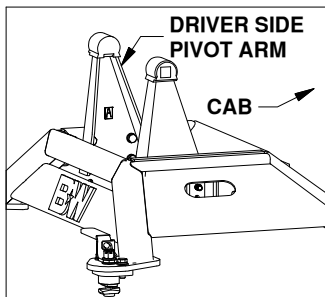
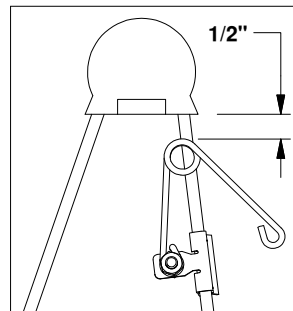

Figure B3: Base View
Figure B4: Driver side pivot arm.
2. **Attach kit.** Locate the flange which will be closest to the truck cab on the driver side pivot arm, see Figure B3. The clip should be placed so that when the spring's coil is in the line with the edge of the arm there will be 1/2" of clearance between the bottom of the polyurethane bushing and the top of the spring, see Figure B4. Drive the clip securely onto the flange with a hammer.